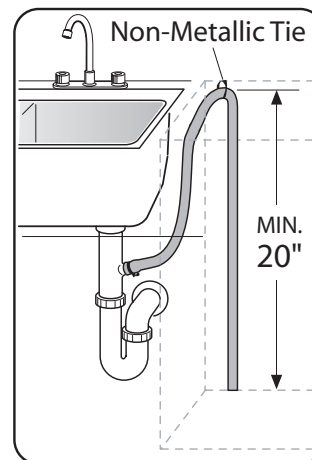

Figure 8
- 1 Directly to the undersink dishwasher drain connection, as shown in **Figure 8**.